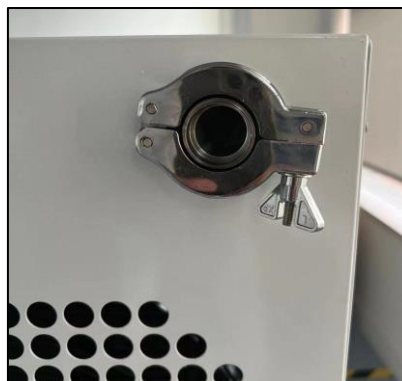

Figure 2
- Insert the sealing ring into the vacuum pump connector and place the clamp around the vacuum pump connector but do not tighten the clamp (Figure 2).